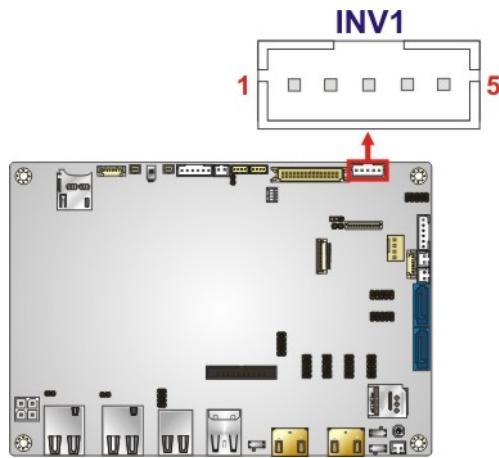

Figure 3-4: Backlight Inverter Connector Location
- CN Location:** See **Figure 3-4**